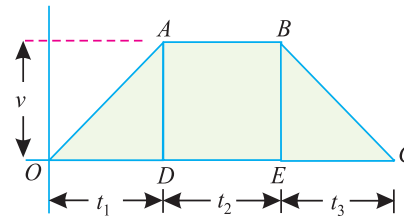

Fig. 17.8.
**Solution.** Let  $OABC$  represent the velocity-time graph in which  $OA$  represents the period of acceleration,  $AB$  the period of uniform velocity and  $BC$  the period of retardation as shown in Fig. 17.8.